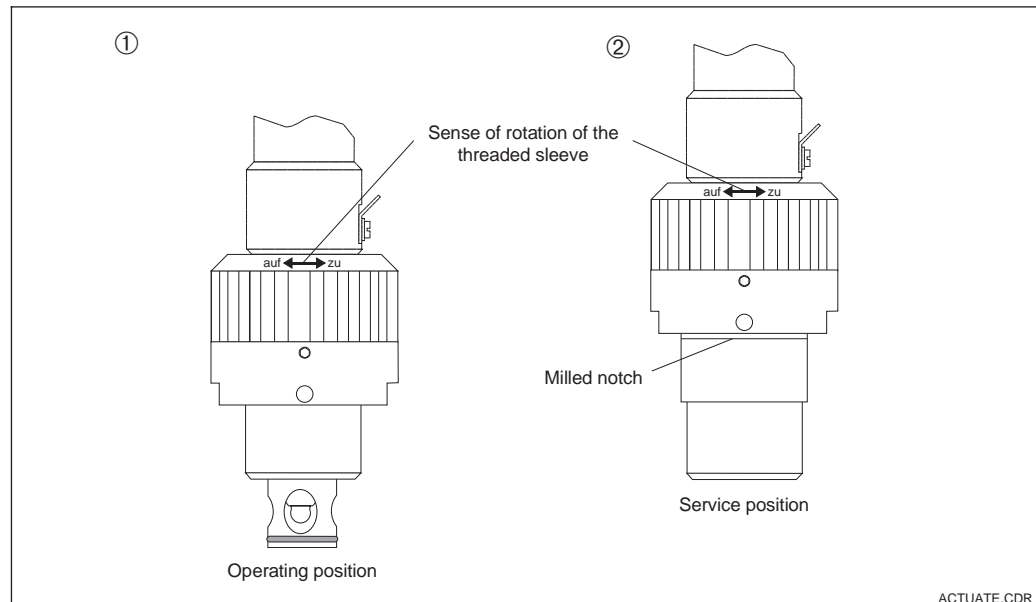

Fig. 3.10 Actuation of the Probfit CPA 460 assembly
- To open the assembly, turn the threaded sleeve clockwise (“auf” = open) by approx. 13 revolutions until stop. Then the electrode is in contact with the medium, and the assembly has reached its operating position (see Fig. 3.10, ①).
- To close the assembly, turn the threaded sleeve counterclockwise (“zu” = closed) by approx. 13 revolutions until stop. This will draw the electrode from the medium into the assembly until the opening between the built-in adapter and the protection guard cover is closed. A milled notch below the retaining ring marks this final position, which corresponds to the service position of the assembly (see Fig. 3.10, ②).